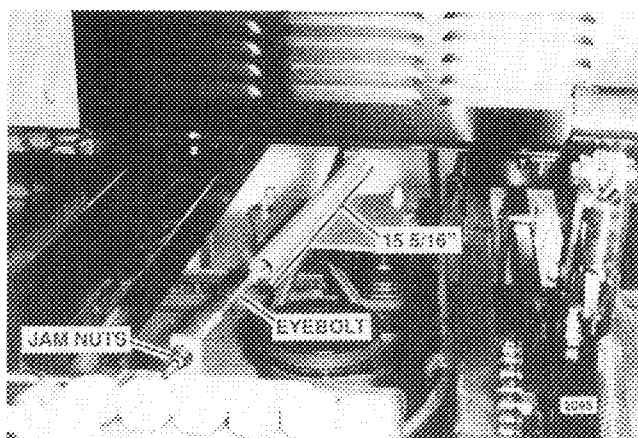

FIG. 8. Drive Belt Tensioning Spring Adjustment
2. Check that drive belt spring length is 15 5/16 inches (Fig. 8). to insure proper drive belt tension. Adjust locknut on eyebolt as necessary. Spindle belt spring is not adjustable.
To install new belt, reverse above steps. Adjust length of tension spring to 15 5/16 inches (Fig. 8).
Loosen drive belt adjustment eyebolt and remove tension spring (Fig. 8).
To install belt, reverse above steps. Adjust length of drive belt tension spring to 15 5/16 inches (Fig. 8).
Loosen drive belt adjustment eyebolt and remove tension spring - save parts (Fig. 8).